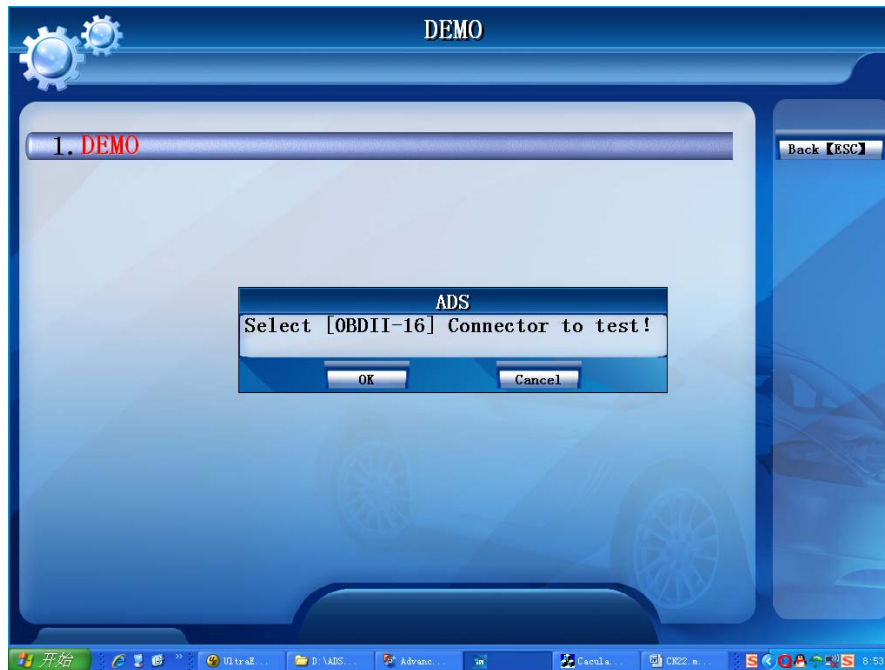
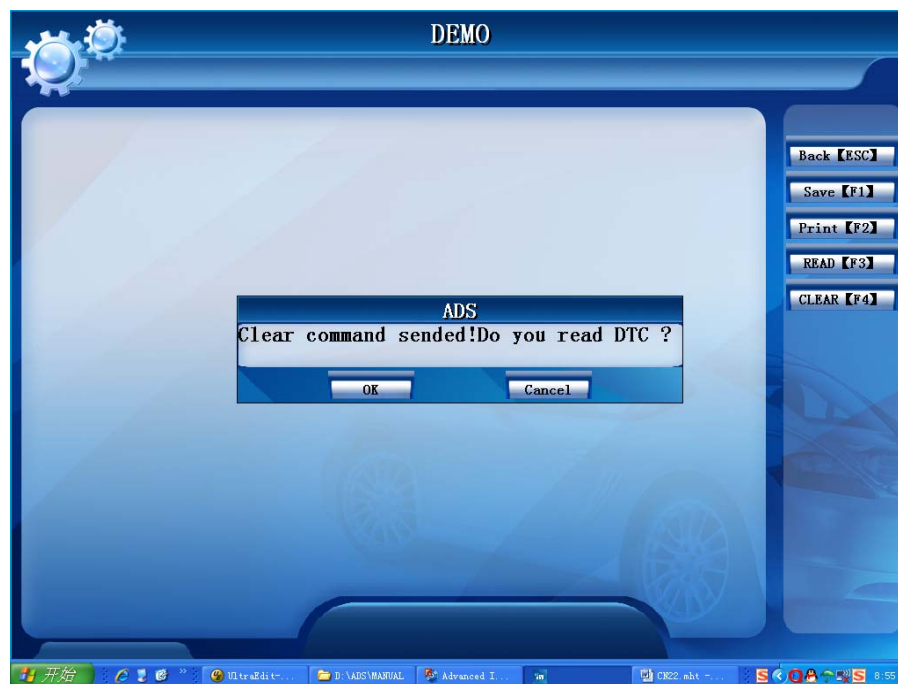
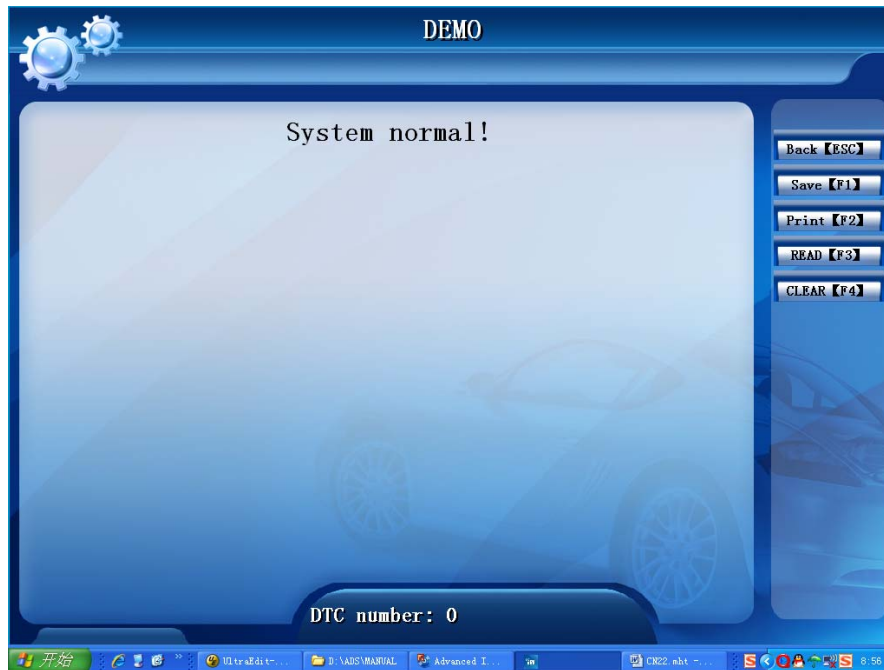

Figure-10
Figure-15
Figure-16
10. Click “DEMO”, appears a hint to choose connector, as shown in figure-10
15. If you choose “Cancel”, then it comes back to the functional selection interface, as shown in figure-10, or if you choose “OK”, it will appear figure-15.
16. If you choose “Cancel”, then it comes back to the functional selection interface, as shown in figure-10;or if you choose “OK”, it will appear figure-16